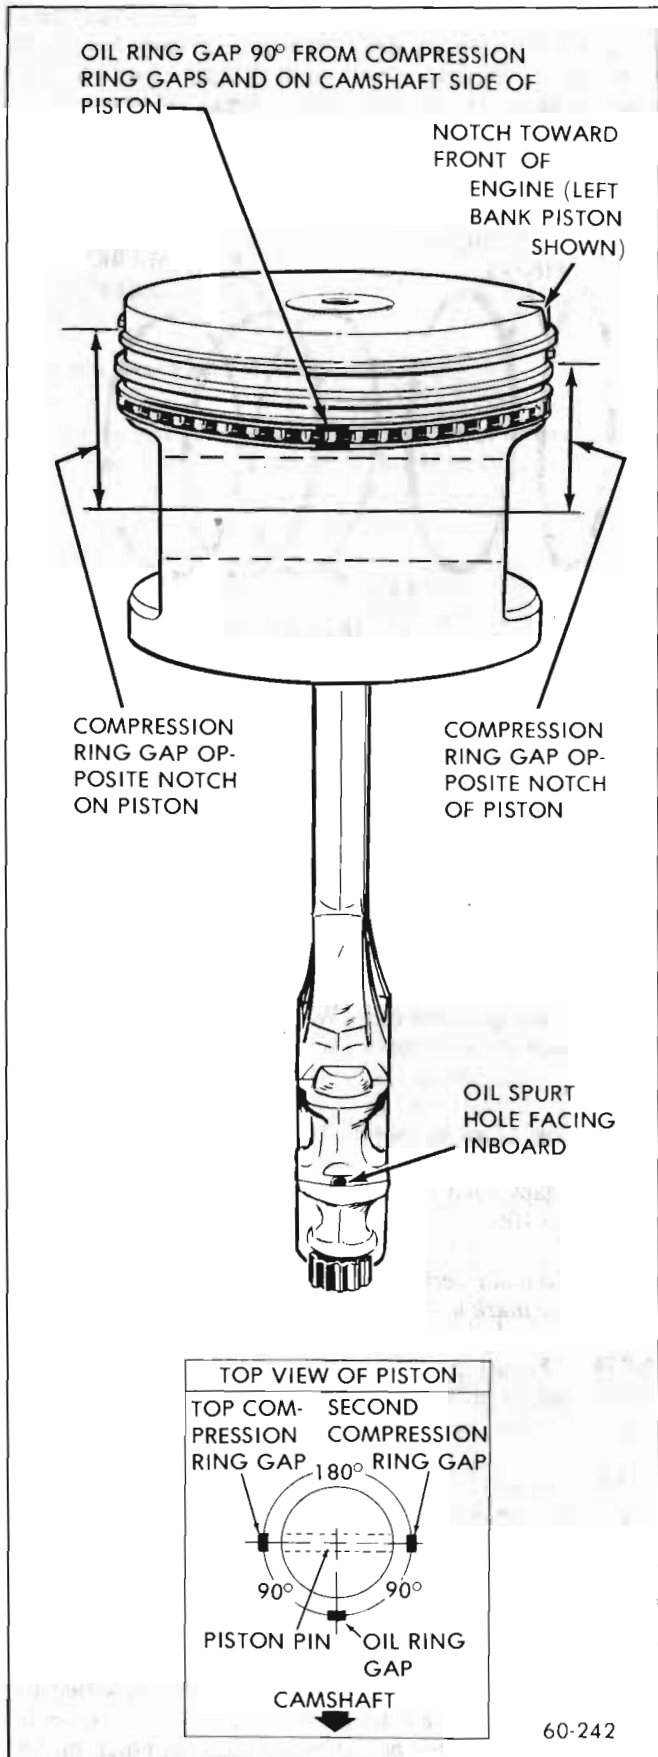

Figure 60-106 - Piston Ring Gap Positioning
- d. Ring gaps - All three ring gaps must be 90 apart. See Figure 60-106.